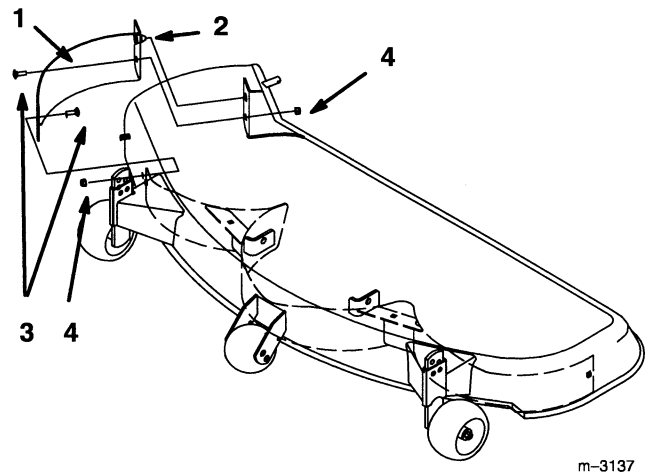

Figure 15
- Remove locknuts and bolts from discharge cover (Fig. 15). Lower the cover and slide it out of the discharge opening.
- Install previously removed 5/16–5/8” bolts and 5/16” locknuts in open holes of mower for safety (Fig. 15).